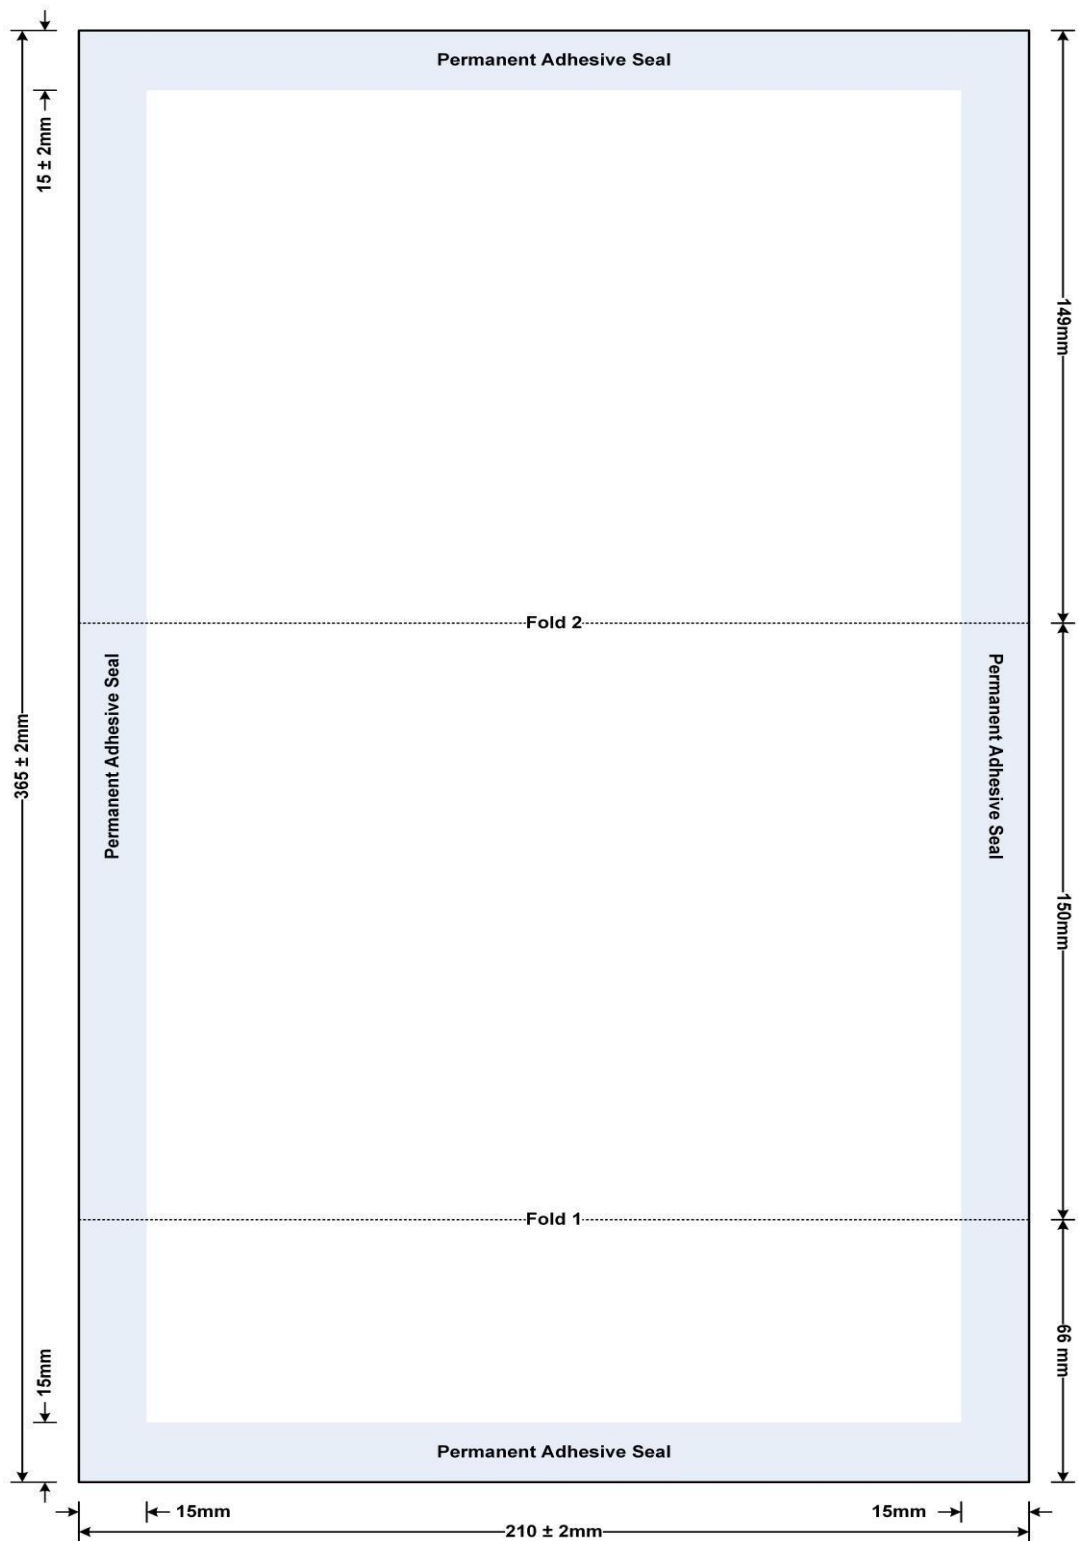

Figure 43: Physical Construction
2. The paper must be folded such that the first fold creates an internal flap that is 66mm deep (a manufacturing tolerance of plus or minus 2mm is permitted). The second fold must form another flap that covers the internal flap and ends 1mm short of the bottom (reference) edge. This is illustrated in Figure 41 and Figure 43.